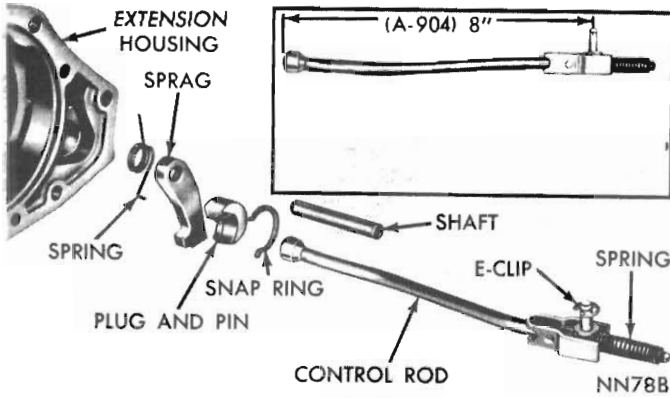

Fig. 41 - Parking lock components
(3) Slide shaft out of extension housing to remove the parking sprag and spring (Fig. 41). Remove snap ring and slide the reaction plug and pin assembly out of the housing.
(4) To replace the parking lock control rod, refer to "Valve Body—Removal and Installation".
(1) Position sprag and spring in the housing and insert the shaft (Fig. 41). Make sure square lug on sprag is toward parking gear, and spring is positioned so it moves sprag away from the gear.
(2) Install reaction plug and pin assembly in the housing and secure with snap ring.
(3) Install extension housing.